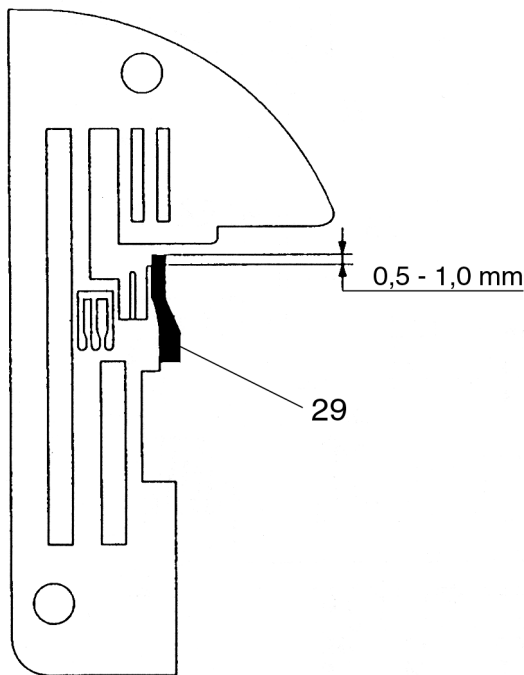

Fig. 45
The chaining finger 29 must be parallel to the needle plate and its foremost point protrudes 0.5 - 1.0 mm over the needle plate finger (fig. 45).
- Push the chaining finger back and forth until the setting is as in fig. 45.